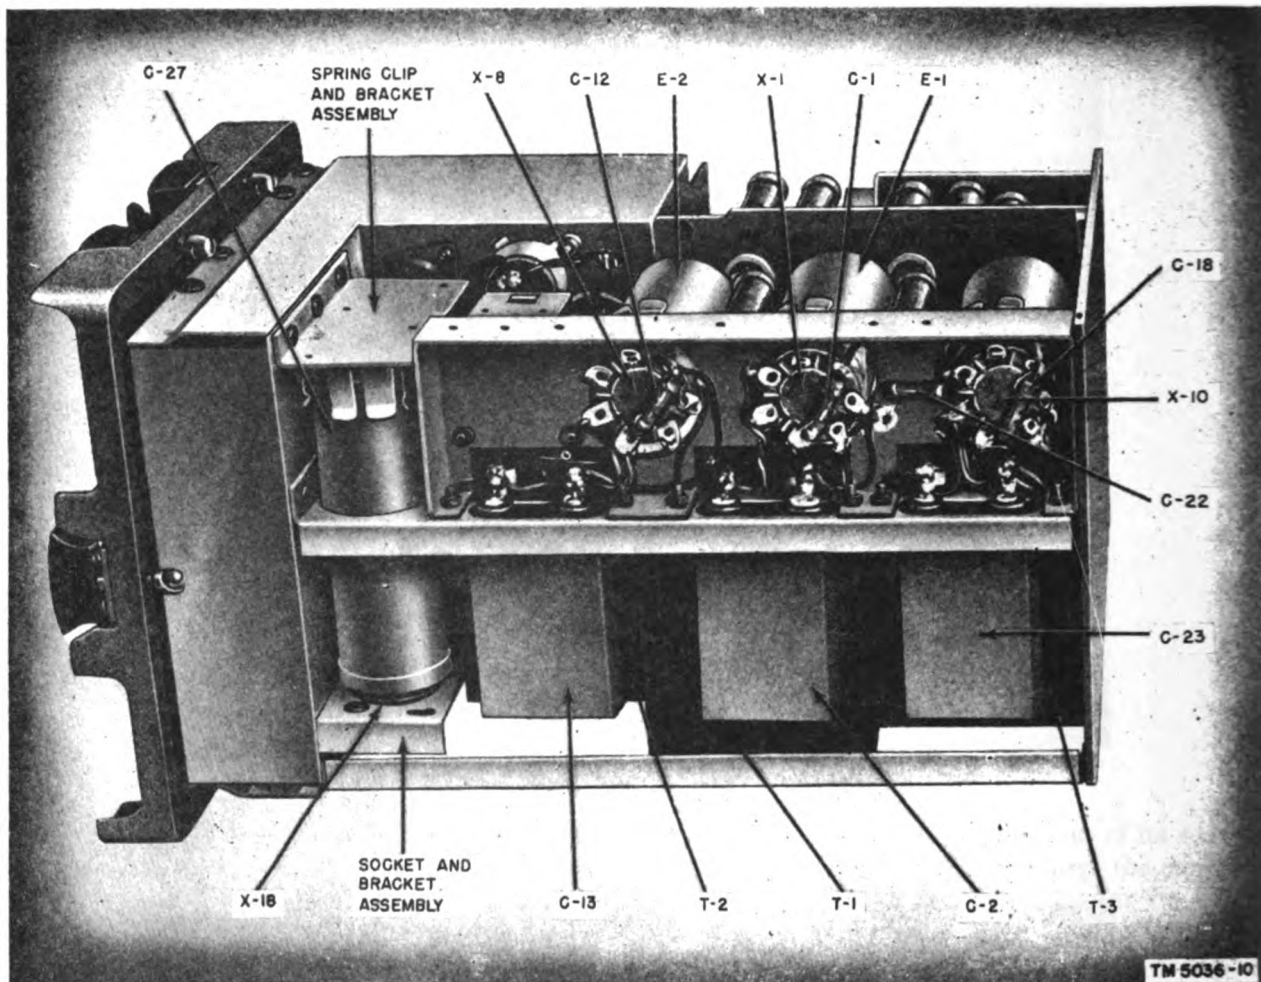

Figure 51. Power Supply PP-109/GR, bottom view of chassis.
d. **VIBRATORS.** The three vibrators (E-1, E-2, and E-3) are located on the right-hand side of the power supply chassis (fig. 51). To remove a vibrator, pull straight upward without jiggling. If necessary, use a small screw driver to pry the vibrator out of its socket but take care not to spread the ring clip at the base of the vibrator.